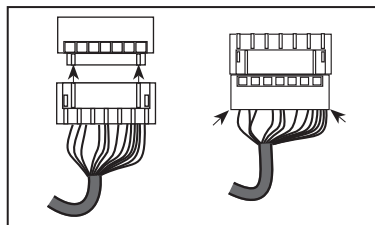

Figure 6B
- Attach cable assembly to the inside escutcheon PC board by lining up notches on top of cable connector to slots on PCB connector (Fig. 6B).